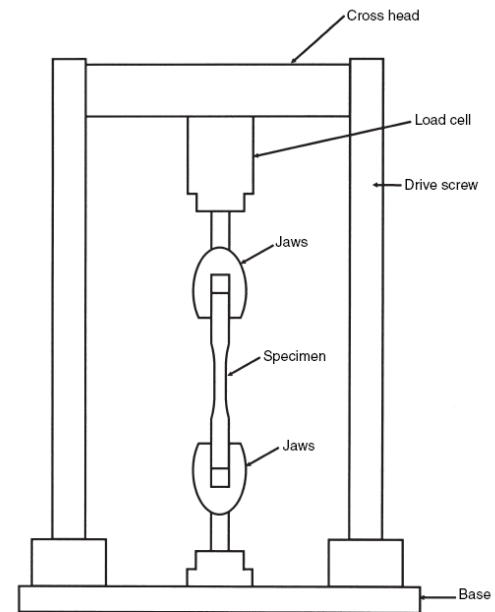

FIG. 7. Mechanical testing machine.
FIG. 7. ESCA is a surface-sensitive method. Although the X-ray beam can penetrate deeply into a specimen, electrons emitted deep in the specimen (D, E, F, G) will lose their energy in inelastic collisions and never emerge from the surface. Only those electrons emitted near the surface that lose no energy (A, B) will contribute to the ESCA signal used analytically. Electrons that lose some energy but still have sufficient energy to emerge from the surface (C) contribute to the background signal.